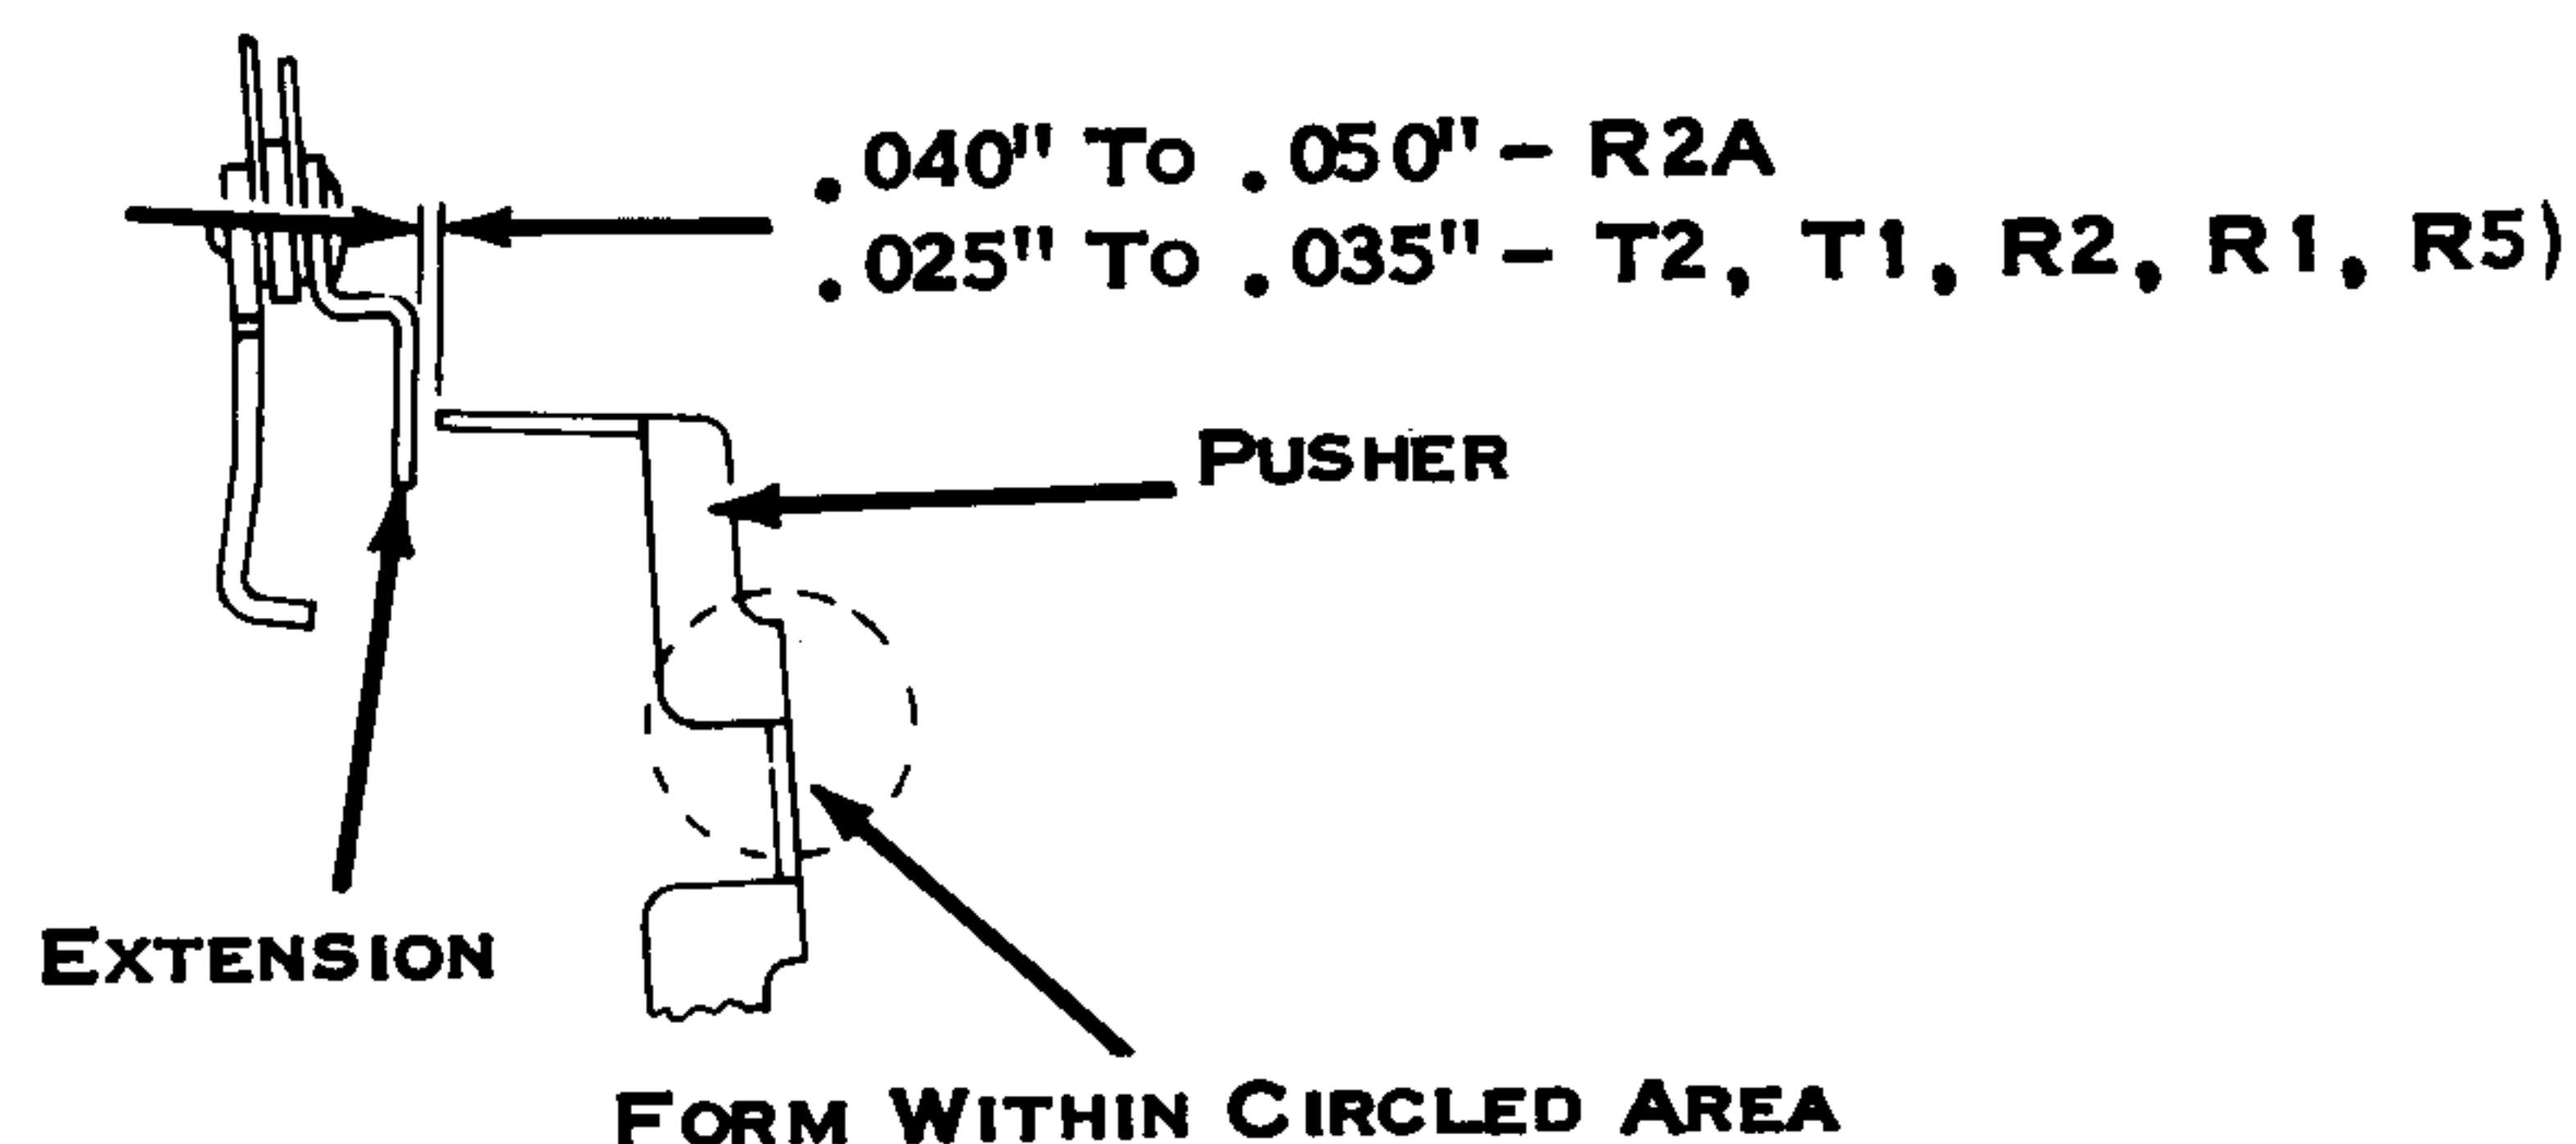

Figure 18. Latch Pushers
- c. When removal of the Latch Pusher Assembly is required, scribe (for reinstallation reference) the pusher plate to power frame relationship. If the original relationship can be maintained, the adjustments will not have been destroyed by removal. In case of loss of relationship, position the pusher plate as nearly as possible for the prescribed latch to pusher clearances (Fig. 18) and proceed with the following adjustments.
2. Latch Pushers T2, T1, R2, R1, & R5 (Fig. 18) - Form to clear their respective latch extensions by .025" to .035".
3. Latch Pusher, R2A (Fig. 18) - Form to clear latch extension by .040" to .050".